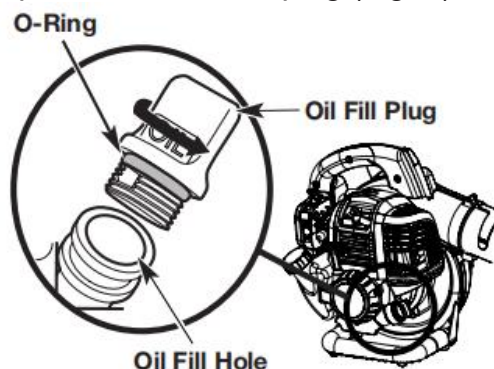

Fig. 4
- Unscrew the oil fill plug (Fig. 4).
- Pour the entire container of oil into the oil fill hole (Fig. 4).
Note: Make sure the O-ring is in place on the oil fill plug (Fig. 4).